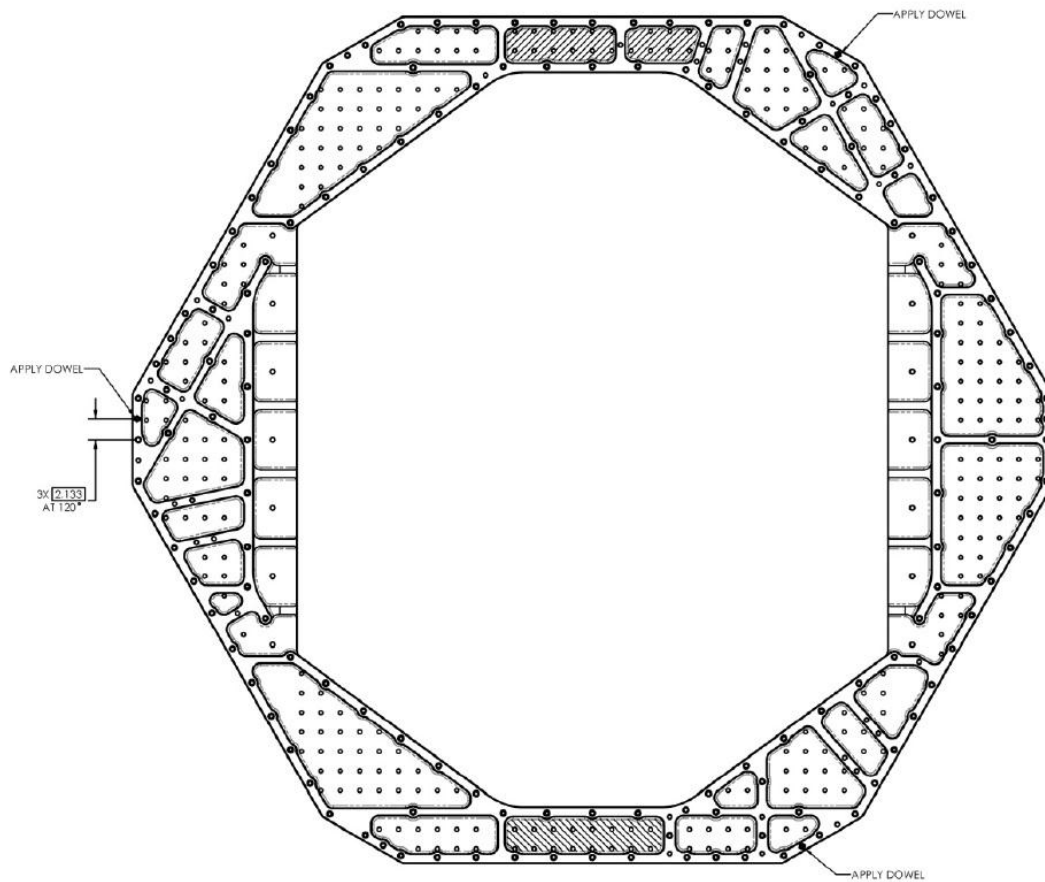

Figure 6: Press 1/2" x 1.25" Dowel Pins in D0900894 Bottom Part of Stage 0
- Place D0900894 Bottom Part of Stage 0 onto the BSC-ISI Test Stand in this configuration (ribs up as shown on Figure 6).